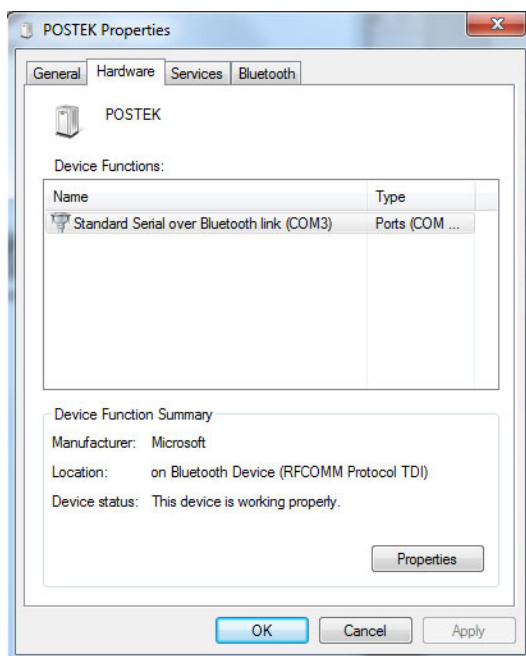

Figure 3-7
4. Now, set the V6 driver port to the assigned Bluetooth port. To determine the assigned Bluetooth port, from the computer's Devices and Printers right click on the POSTEK Bluetooth icon and select the Hardware tab. The port will be displayed, such as COM1, COM2 or COM3, as shown in Figure 3-7. Make a note of the displayed port.